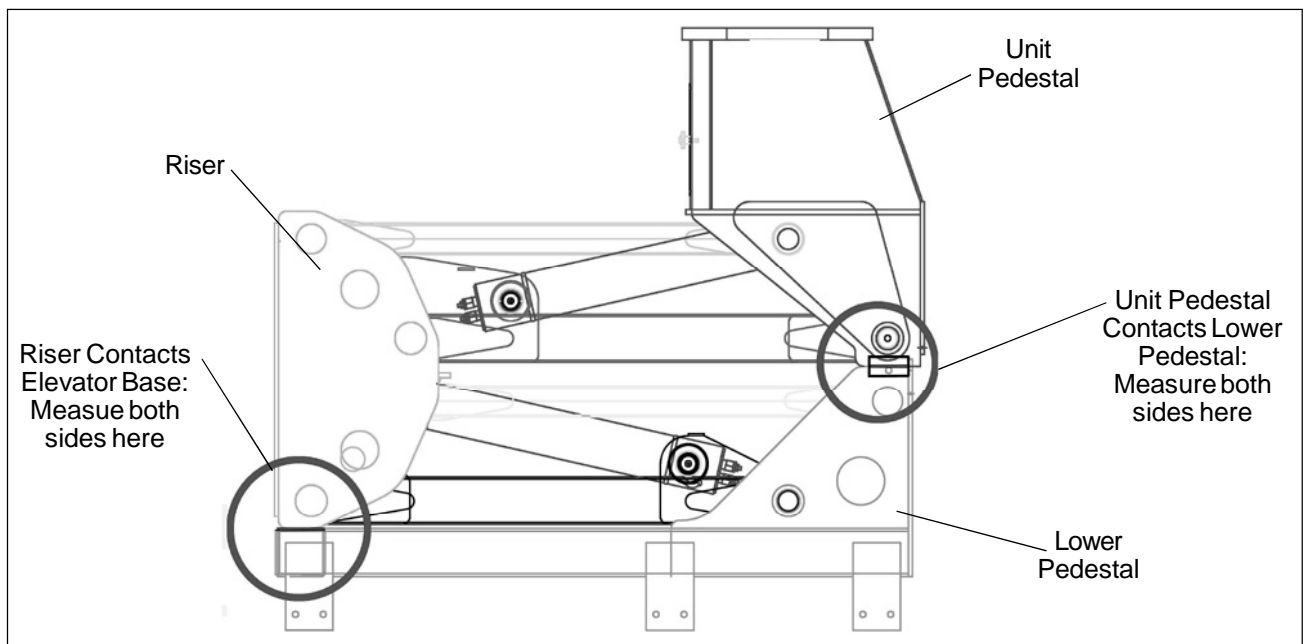

Figure 2 — Measuring The Space
6. Measure the distance from the parts that do not contact one another (refer to Figure 2)